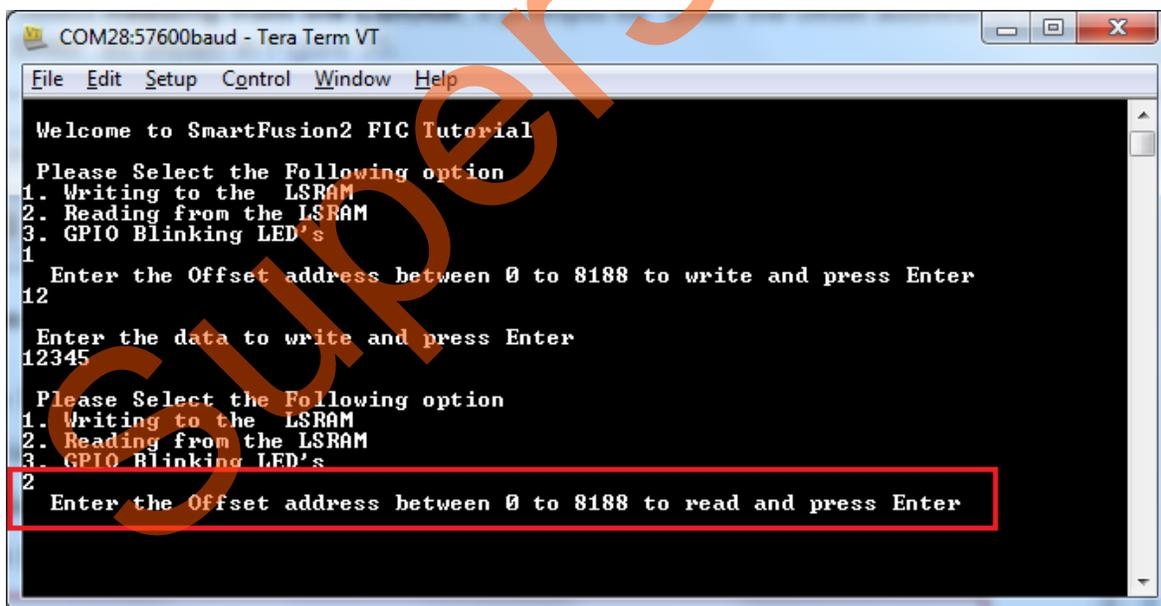

Figure 55 • Reading from LSRAM
11. Select **Reading from the LSRAM**, it prompts for “Enter the offset address to read and press Enter” as shown in Figure 55.